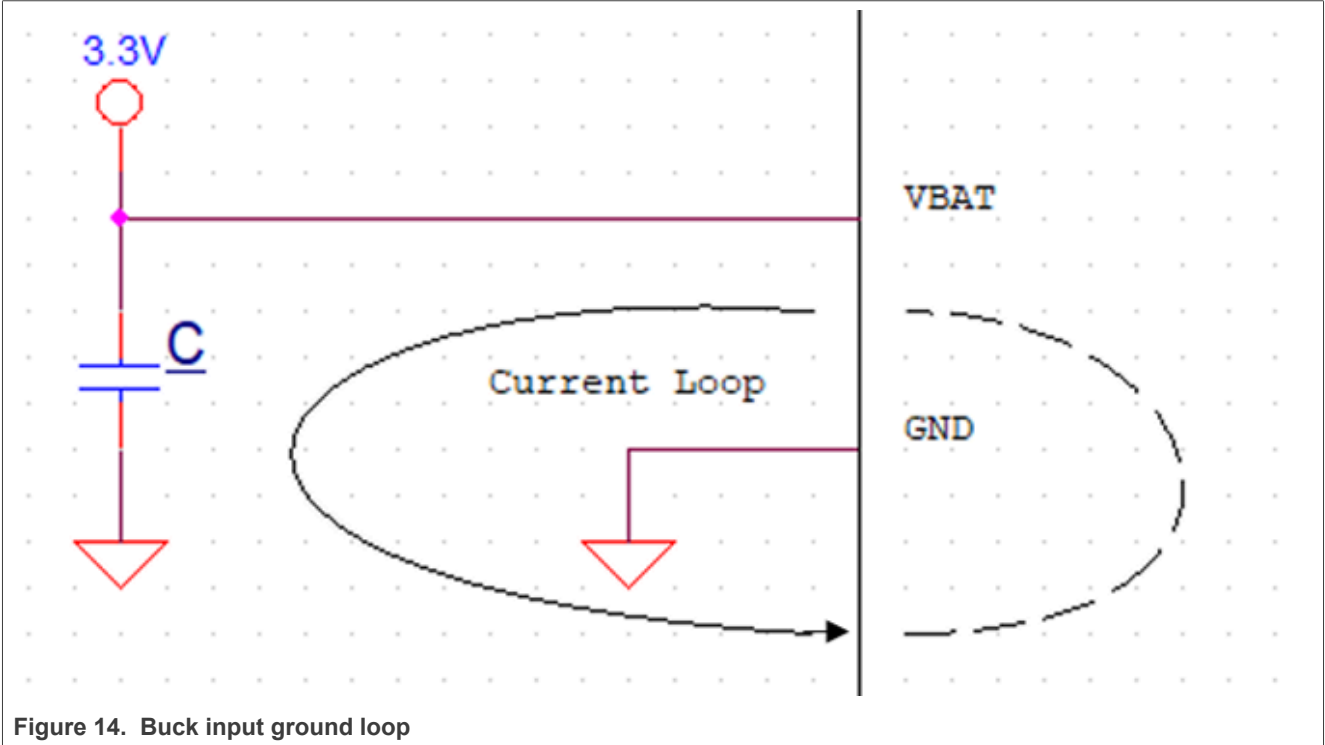

Figure 14. Buck input ground loop
- Ensure the current return path/loop is as small as possible. The current loop consists of BUCK18\_VOUT, inductor, capacitor, and ground pins. Figure 14 shows the buck input ground loop